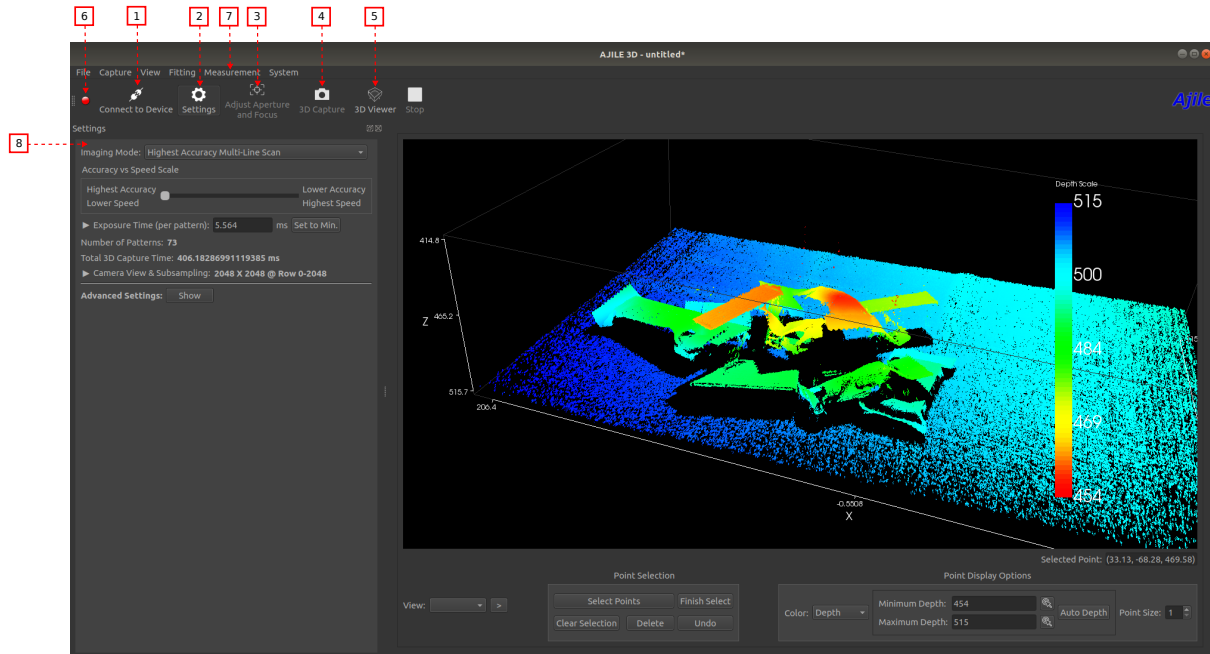

Figure 2.1: Main components of the Ajile 3D GUI.
The main components of the Ajile 3D GUI are shown in Figure 2.1. The top toolbar of the GUI controls the overall flow of capturing high quality 3D images. The steps to go from first opening the Ajile 3D GUI to having available a 3D point cloud to manipulate is as follows:
1. Connect to the DepthScan by clicking on the Connect button (Figure 2.1, item 1).
2. Open the imaging settings by clicking on the Settings button (Figure 2.1, item 2), then adjust imaging settings (exposure time, etc.) in the Settings panel (Figure 2.1, item 8).
3. Adjust the camera and projector aperture and focus by clicking on the Adjust Aperture and Focus button (Figure 2.1, item 3).
4. Start the 3D capture by clicking on the 3D Capture button (Figure 2.1, item 4).
5. The integrated 3D viewer will automatically appear, displaying the captured 3D point cloud for viewing and analysis. Click on the 3D Viewer button (Figure 2.1, item 5) at any time to open the 3D viewer.
6. Perform 3D fitting, alignment, and measurement tasks on the 3D image with operations available in the menu bar (Figure 2.1, item 7), or save the 3D image to one of the available point cloud formats with the File → Export → Point Cloud menu.
To connect to the device, click on the 'Connect' button in the GUI (Figure 2.1, item 1). A dialog box will pop up indicating that we are trying to connect, and the status indicator light in the top left corner of the GUI (Figure 2.1, item 6) will change color from red (disconnected) to yellow (connecting). When it is finished, the dialog box will disappear, and the 'Connect' button will stay pressed down, and the status indicator lighting will change color to green indicating that we are connected. If an error message appears indicating that the connection failed, check the device power, USB 3 connection, and check that all drivers are properly installed with the Ajile 3D Software installer. See the troubleshooting section or contact Ajile support if you continue to have problems connecting.
The imaging settings can be displayed by clicking on the Settings button (Figure 2.1, item 2). The first imaging setting that can be adjusted is the imaging mode. This is a drop down menu which shows the different imaging modes available by default in the DepthScan. These imaging modes trade off between accuracy and speed by adjusting the number of structured light images used per scan, and the camera sensor resolution. In general, more patterns and higher camera sensor resolution means higher 3D measurement accuracy, at the cost of lower speed. The default imaging mode is the highest accuracy mode which uses 73 structured light patterns at full resolution. This imaging mode is recommended for most applications since it gives the best accuracy, and the speed is still relatively high with a total 3D capture time of 406 ms using the default exposure time settings.
To enter setup mode so that we can adjust the camera and projector, click on the ‘Adjust Aperture and Focus’ button (Figure 2.1, item 3). This will cause the projector to project line patterns onto the scene, and a live video stream from the camera to appear in the GUI. Additional information will also be displayed in the GUI which indicates the number of successfully located points in the scene and the quality of the focus with the current exposure time, aperture and focus settings.
For very dark or very bright scenes, it may be necessary to also adjust the camera exposure time. This can be done by changing the Exposure Time value, in milliseconds, shown in the GUI settings (Figure 2.1, item 8), then clicking ‘Stop’ followed by clicking ‘Adjust Aperture and Focus’ to restart the camera so that the new setting takes effect.
A final note on the aperture: if longer exposure times are not a problem for your application, it is recommended to first adjust exposure times when not enough light is reaching the camera sensor, and keep the aperture small to have better depth of field. This is done by changing the Exposure Time value in the Settings panel, which is highlighted in Figure 2.1. The exposure time is in milliseconds in the GUI, so in the case of Figure 2.1 it is set to 5.5 ms.